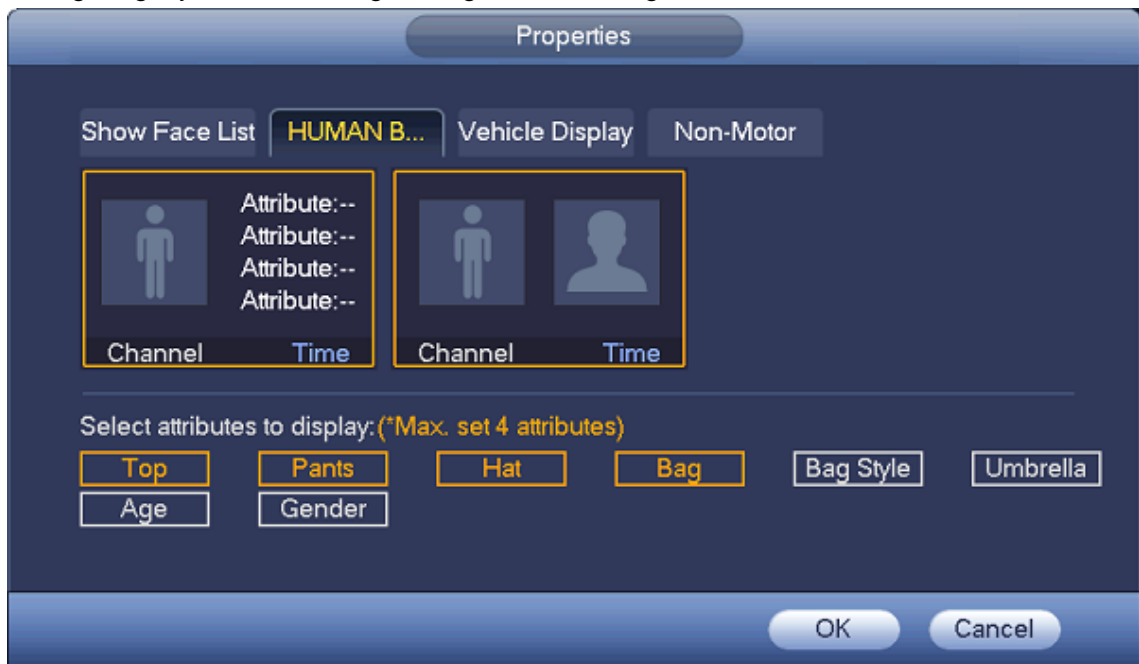

Figure 4-64
- Step 5 (Optional) Click Human Body Detection and select attributes to display, including top, pants, hat, bag, bag style, umbrella, age and gender. See Figure 4-64.